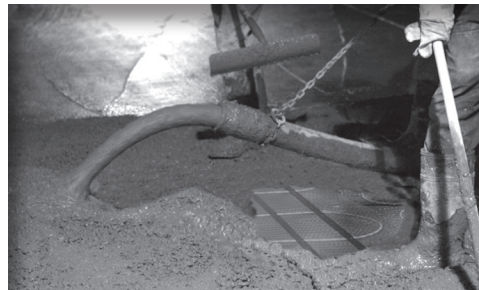

Figure 14
- When pouring the concrete, always lift the end of the pipe so that it does not touch the mat (*figure 14*).